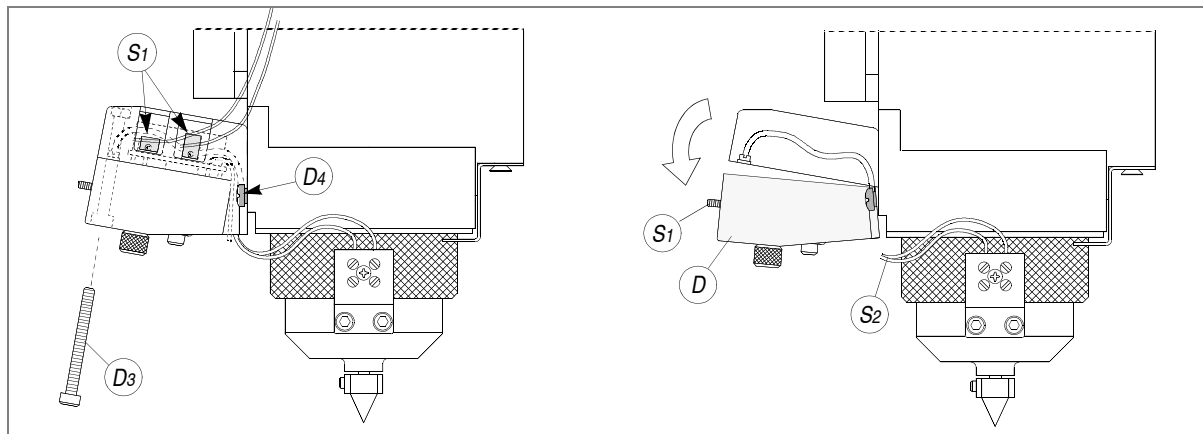

Fig. 31
- 2) disconnect the two connectors (S1) (fig. 31) and remove the two front screws (D3).
- 3) take hold of the whole unit (D) turn slightly downwards and remove.